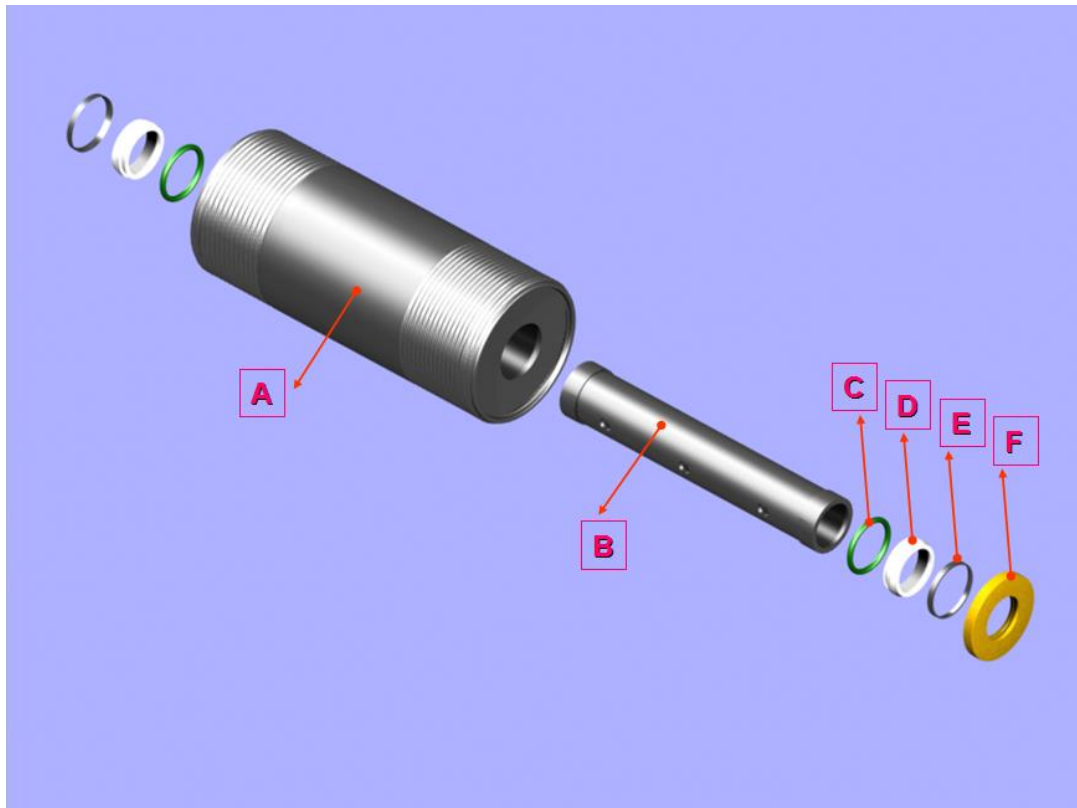

Figure.3
- D: High-pressure cylinder assembly (figure.3)